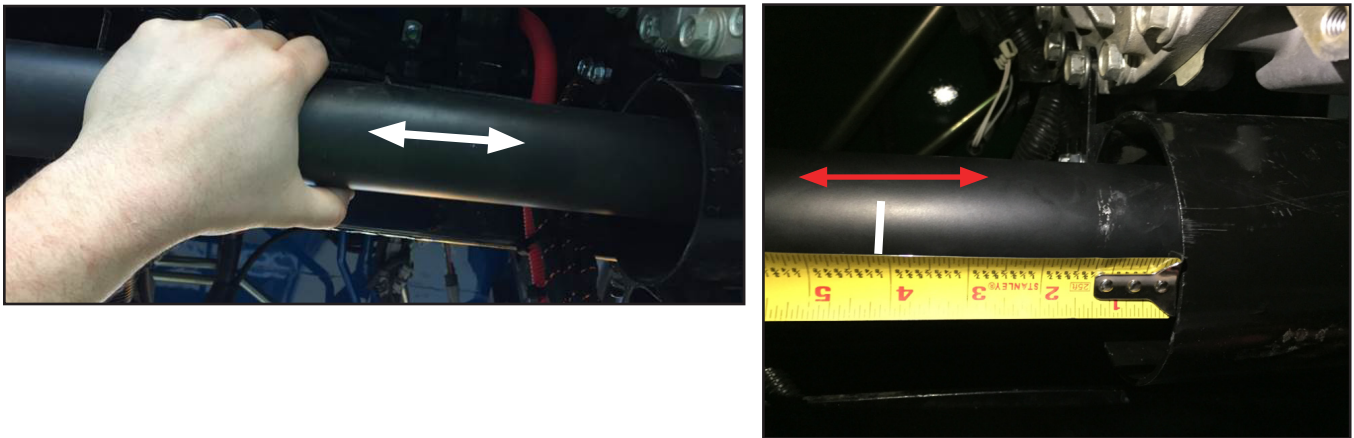

Figure 13
- C. Check that it moves $\frac{3}{8}$ " to $\frac{1}{2}$ " from the mark (Figure 13). Repeat in the other direction.